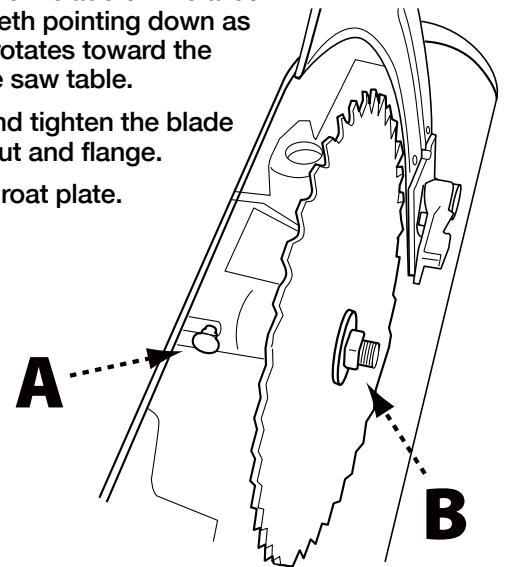

FIGURE 21
2. Push and hold arbor lock button (A) shown in Figure 21.
3. Use included arbor wrench to remove the blade retaining nut and flange (B). Remove old blade.